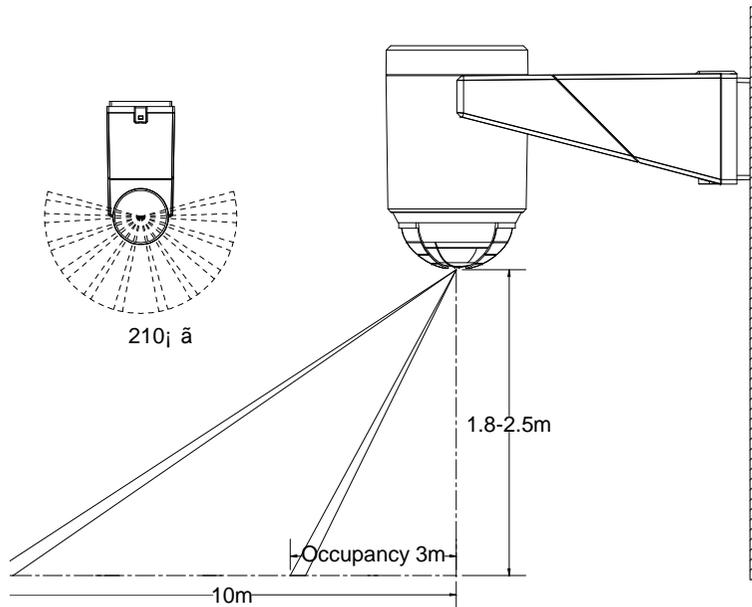

Fig.1 Detection Area
1. The sensor is designed for optimum performance when mounted at a height of between 1.8.5 to 2.5 meters (see Figure 1)